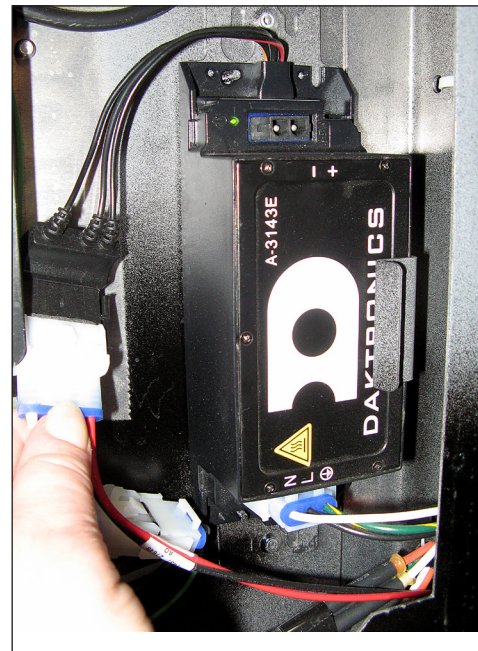

Figure 14: Power Supply Mounting
1. Disconnect the power supply from any wiring harnesses connected to it, as shown in **Figure 14**.